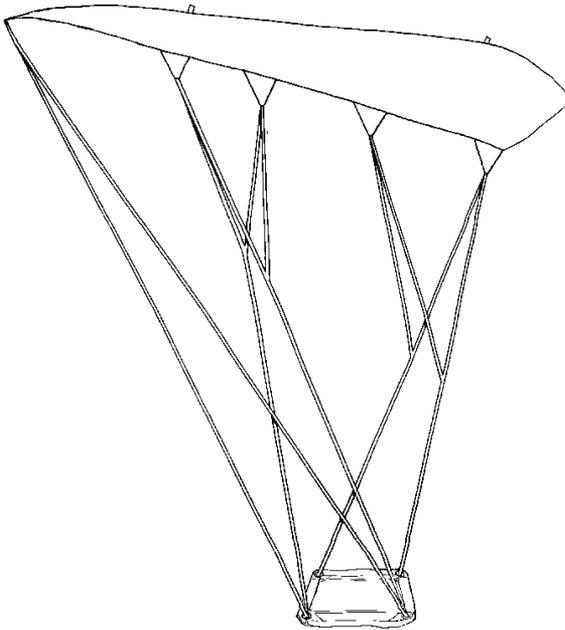

Figure 1.
Step 1.) After inspecting and assembling the Flight Concepts International MAIN OR RESERVE canopy and the harness/container system, lay the canopy out on a smooth clean floor on its left side. (See Figure 1.) The harness must be placed facing down, with the top toward canopy. Clear all cells at the leading edge (nose) of the canopy. Insure that the top mid-seams of each of the cells are even with one another and lying flat from nose to tail.